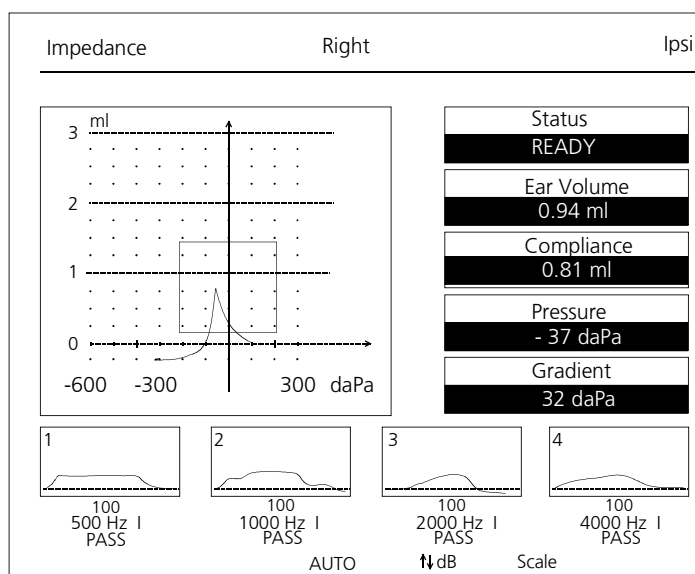

Figure 21 Example of a normal Tympanogram with ipsilateral reflex results
Carry out the measurement as described in chapter 4.4 "Recording the Tympanogram". The Stapedius reflex is measured after the measurement of the Tympanogram. During the measurement of the Stapedius reflex the change of the compliance is represented in real time on the LCD display ⑤. When the test is finished the curves for the changes of compliance for 500 Hz, 1000 Hz, 2000 Hz and 4000 Hz are shown in four separate graphs at the bottom of the measurement screen (see Figure 21). Below each curve you see the test level where a Stapedius reflex was registered automatically. This is indicated by a "PASS" below the frequency. If no reflex was detected, a "FAIL" is reported and the maximum level is shown.